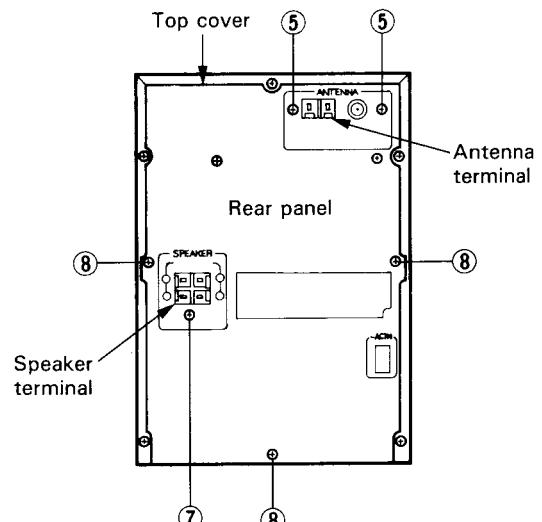

Fig. 7-8
4. From the back surface of the body, remove the two screws ⑤ retaining the antenna terminal on the tuner P.C. board (Refer to Fig. 7-8).
(Refer to Fig. 7-8)**
3. From the rear panel, remove the one screw ⑦ retaining the speaker terminal (Refer to Fig. 7-8).
4. From the back surface of the body, remove the three screws ⑧ retaining the rear panel (Refer to Fig. 7-8).